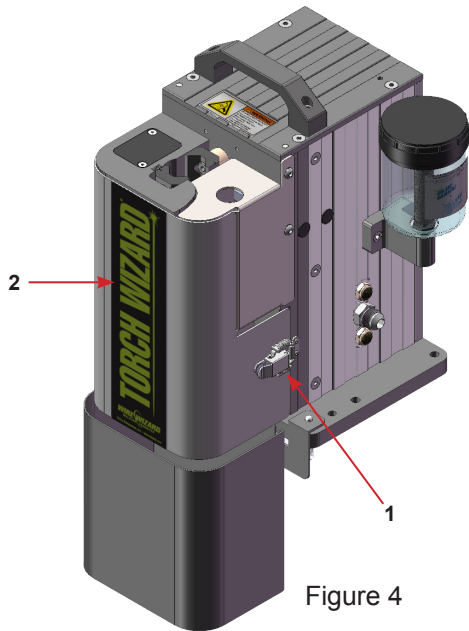

Figure 4
The Torch Wizard Nozzle Cleaning Station incorporates an adjustable v-block feature. This feature eliminates the need to replace the v-block when changing to different diameter gas nozzles. To adjust the v-block, follow the procedure below and refer to figures 4 & 5. **Ensure that there is no air pressure or electrical power to the unit before performing this procedure.**
1. Remove the Stainless Steel Guard. (refer to figure 4 and the procedure for adjusting the V-Block on pg 6).
2. With one hand, hold a gas nozzle in the V-Block at the position that will be used when programming the robot. With the other hand, raise the reamer and check the insertion depth of the reamer bit (1).
3. If the insertion depth is incorrect, loosen the Socket Head Cap Screws (2). Move the Air Motor (3) up or down to obtain the correct insertion depth. If the motor will not move, screw in the Jack Screws (4) to loosen the motor clamp.
4. Back out the Jack Screws (4) if necessary, and tighten the Socket Head Cap Screws (2). Repeat steps 1-3 until the correct insertion depth is obtained.